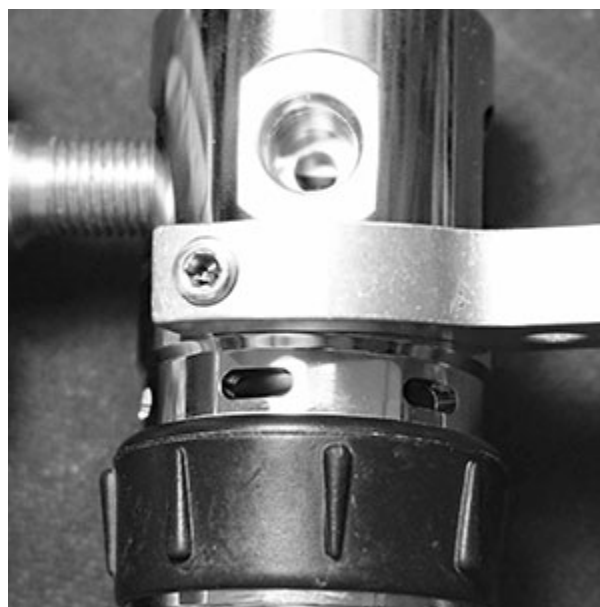

Fig. 32
9. Using the pin spanner and first stage handle, tighten the body connection. There is no torque specification for this. Make sure it is snug. The easiest way to do this is to lay the assembly down on the rubber pad and use steady, even pressure until no movement is felt - Fig. 32. Set the assembly aside.